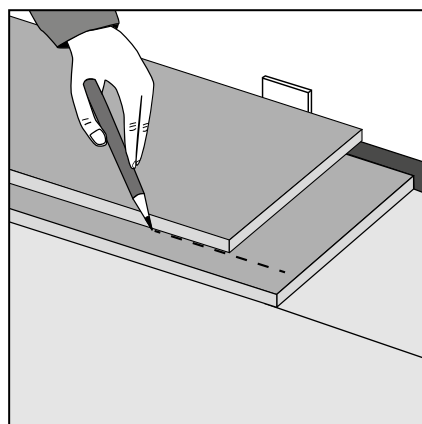

Figure 54 Last row
- > Lay these planks on top of the installed row (fig 54). Hold them firmly in place. Then line up a third plank on top. Use the edge of this plank to mark the cutting line with a pencil on the plank beneath (minimum width 50mm). Carefully scribe along this line with the utility knife. Remember to place a spacer to the wall before measuring to ensure the correct expansion gap is left. After scribing, cut the planks lengthwise using a handsaw or jigsaw.
- > Use the edge of this board to mark the cutting line with a pencil on the board beneath. Remember to allow for the expansion gap (Fig 54).